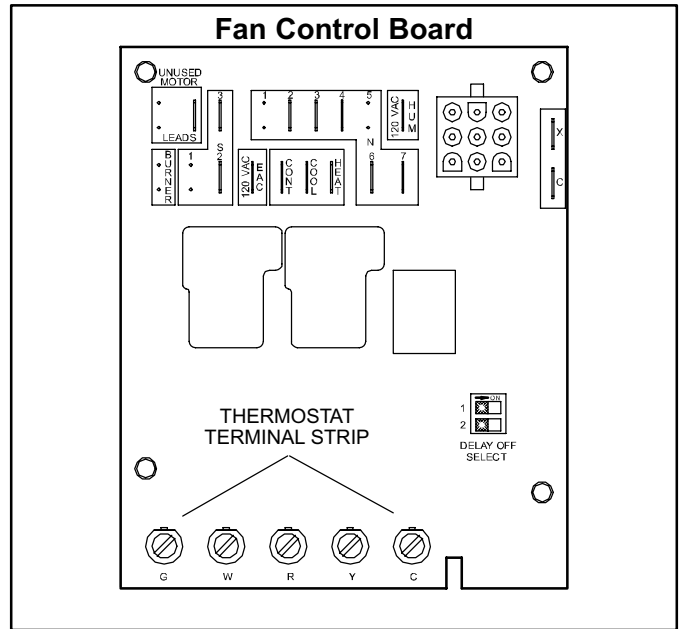
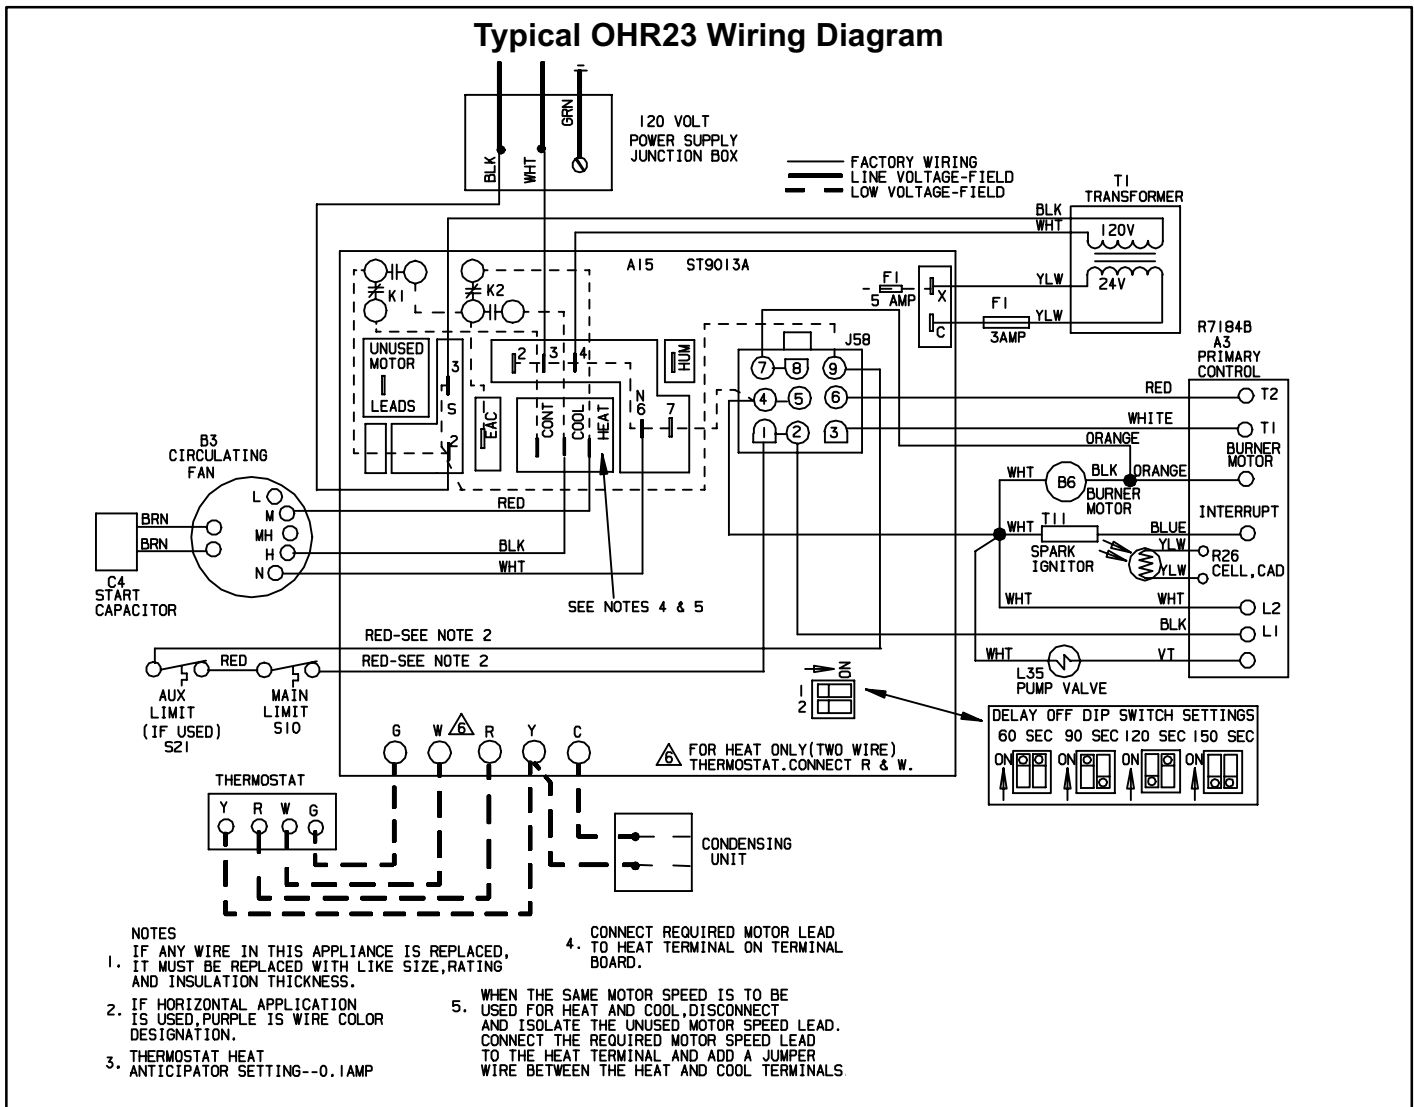

Figure 18
Figure 19
All wiring must conform to the National Electric Code (NEC), or Canadian Electric Code (CEC) and any local codes. Refer to figure 18 for terminal designations on blower control.
*NOTE - An equipment ground screw is provided. Refer to unit wiring diagram (figure 19) and figure 18 for OHR23 series units. Ground unit using a suitable ground wire.*